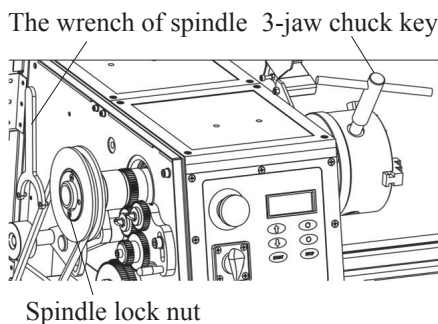

Figure 35
4. Loosen the Spindle Lock Nut one full turn counter-clockwise. (see Figure 35)